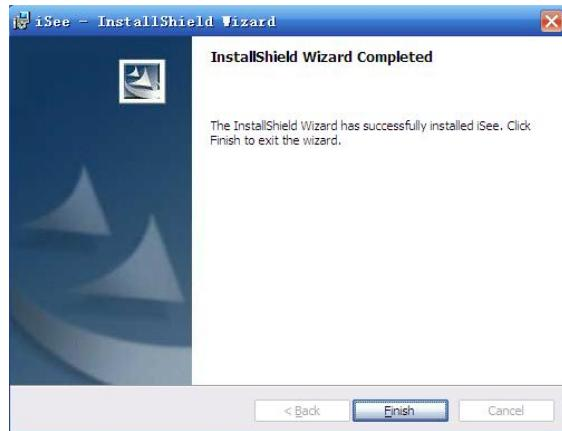

Fig 3
- 5) “JMV iSee integrated surveillance system” successfully installed(fig 3)